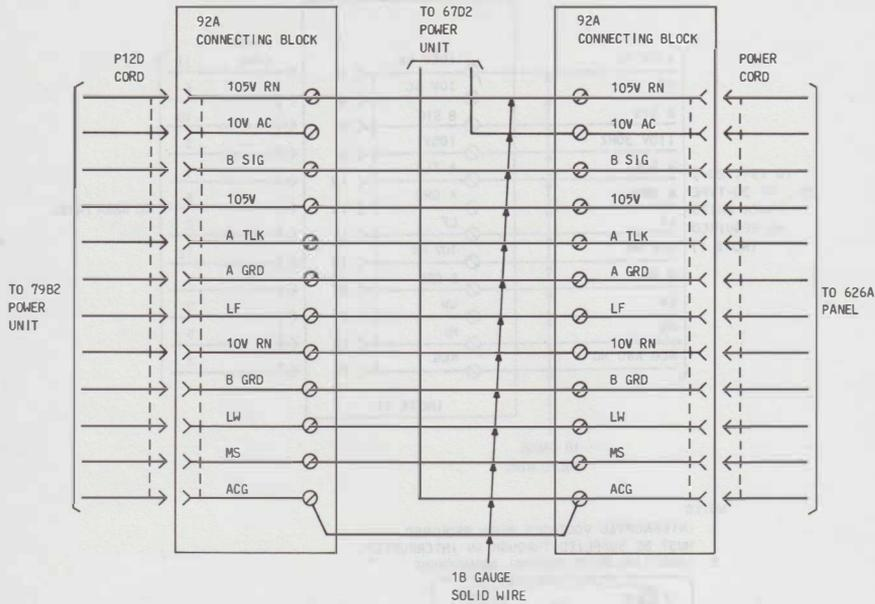

Fig. 7—67D2 Power Unit Connections Using 92A Connecting Block
3.06 For modular panel installations that are subject to expansion or where a large lamp multiple is anticipated, a 67D2 power unit, for 10V ac power, can be used with two 92A connecting blocks to provide the required power for the lamps (Fig. 7).